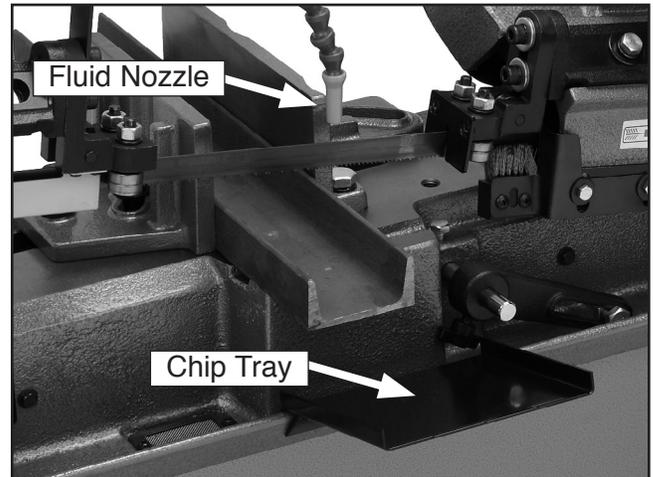

Figure 20. Fluid nozzle and chip tray.
4. Position the fluid nozzle over the cut so the blade will be cooled and rinsed of chips. A chip tray is provided to catch over-spray and small parts (see **Figure 20**).